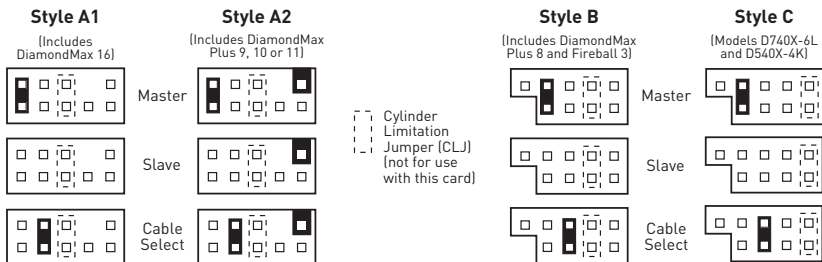

FIGURE 7
1. Configure the jumpers of the Ultra ATA hard drive to the cable select setting. If you are connecting two Ultra ATA drives, they should both be configured to the cable select (CS) setting. Consult the drive label, documentation, or manufacturer for jumper configuration information. Jumper settings for popular Maxtor models are shown below in Figure 7.